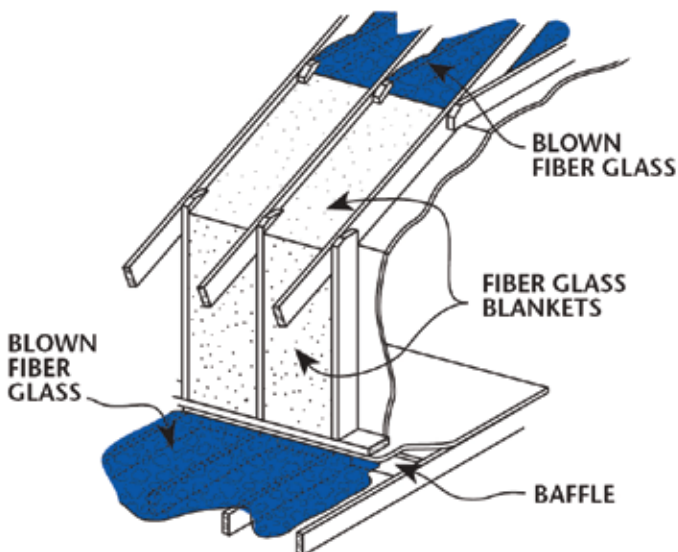

Figure 2
- Some houses contain finished attics. This type of construction can have both knee walls and flat and sloped ceilings. Although it is possible to use retainers and blow knee walls, it is easier to use BIGBATT™ insulation (See Figure 2.)